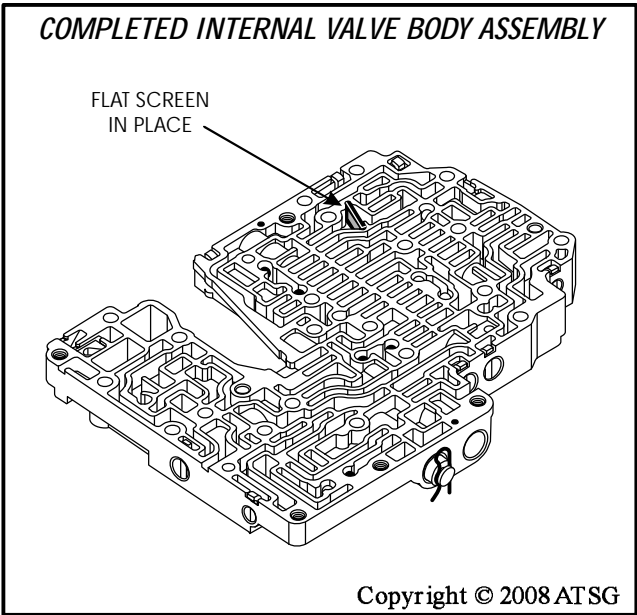

Figure 169
30. Ensure that the flat screen is still in position, as shown in Figure 169, and set the completed internal valve body assembly aside for final valve body assembly.